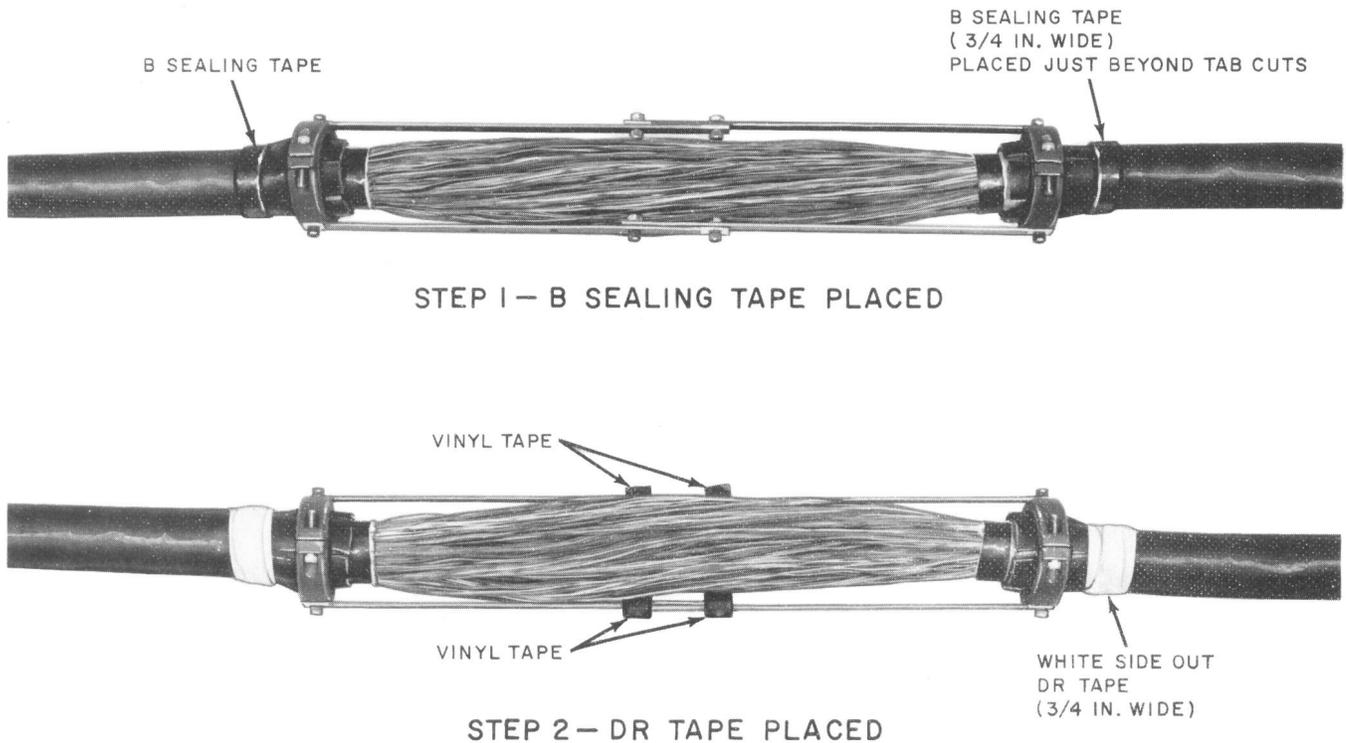

Fig. 7—Inner Collars Placed
- (1) Adjacent to the sheath clamps, place one full wrap of 3/4-inch wide B sealing tape around the cable (Fig. 7). Butt the ends together. Do not stretch the tape.
- (2) Overlapping the B sealing tape, with the white side out, wrap 3 layers of 3/4-inch wide DR tape over the B sealing tape (Fig. 7). Fully stretch the DR tape as it is applied. The last layer of the DR tape should not be stretched.